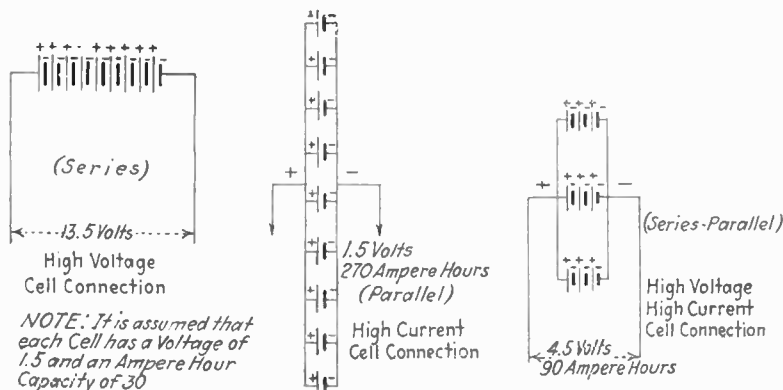

FIG. 76.—Methods of connecting dry cells.
*Ans.* See Fig. 76.
*Ans.* See Fig. 76; add one additional cell.